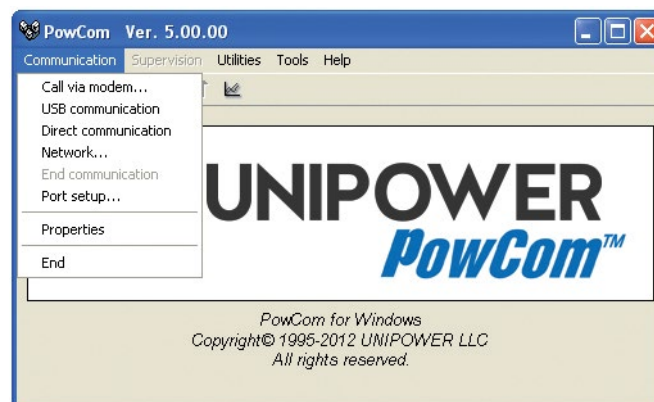

Figure 14 - Communication
4. Choose Communication from the PowCom™ software menu, and select USB Communication, see Figure 14. If present, the controller will be connected automatically through the USB interface.